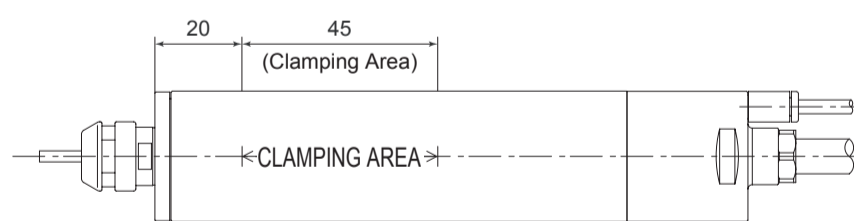

Fig. 13
- 1 When mounting a Motor Spindle, refer to the Clamping Area etched on the Motor Spindle (Fig. 13).